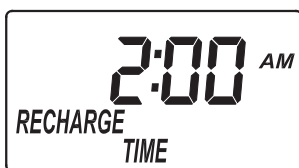

FIG. 24
1. If you completed the previous step, the words "RECHARGE TIME" should show in the display (See Figure 24). Otherwise, press the SELECT button several times until they do.